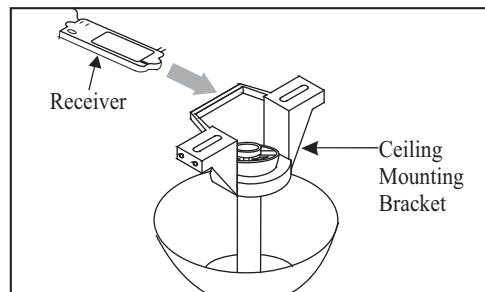

Figure 10
1. Insert the receiver into the mounting bracket with the flat side of the receiver facing the ceiling (Figure 10).